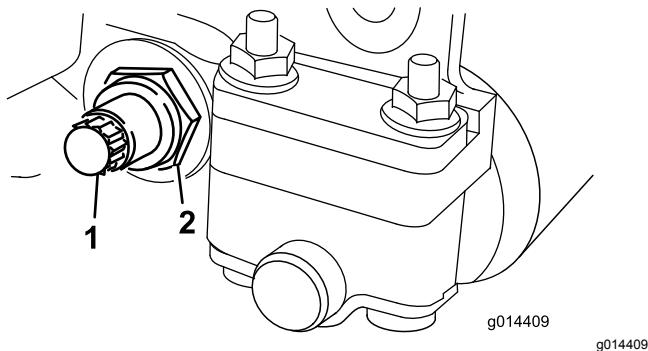

Figure 22
3. On each side of the machine, loosen the locknut securing the bedbar bolt (Figure 22).
4. Remove each bedbar bolt allowing the bedbar to be pulled downward and removed from the cutting unit (Figure 22).